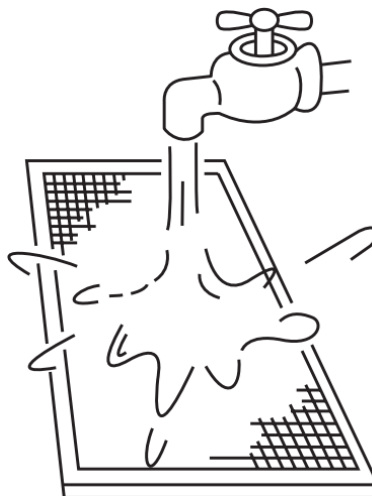

fig.6
- The air-in side should face down when using water. (See Fig. 6)